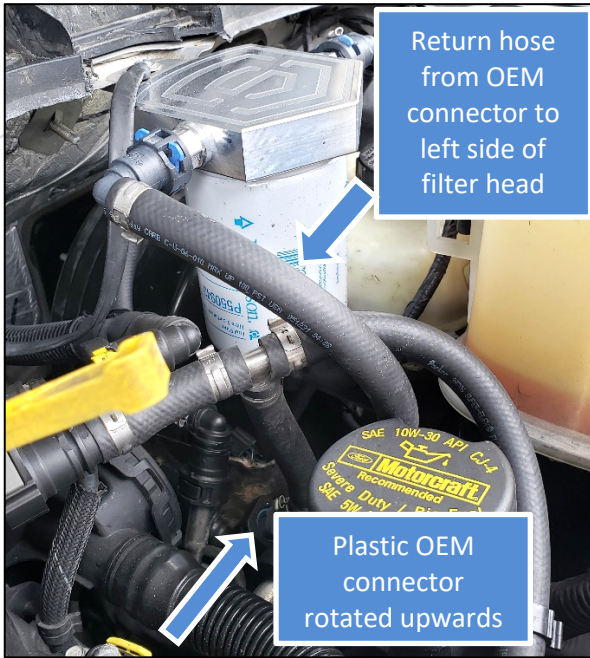

Figure 6: Left Side hose installation
- i. Adjust rotation of quick connect fitting as necessary to avoid chafing as pictured (Figures 6 & 7)